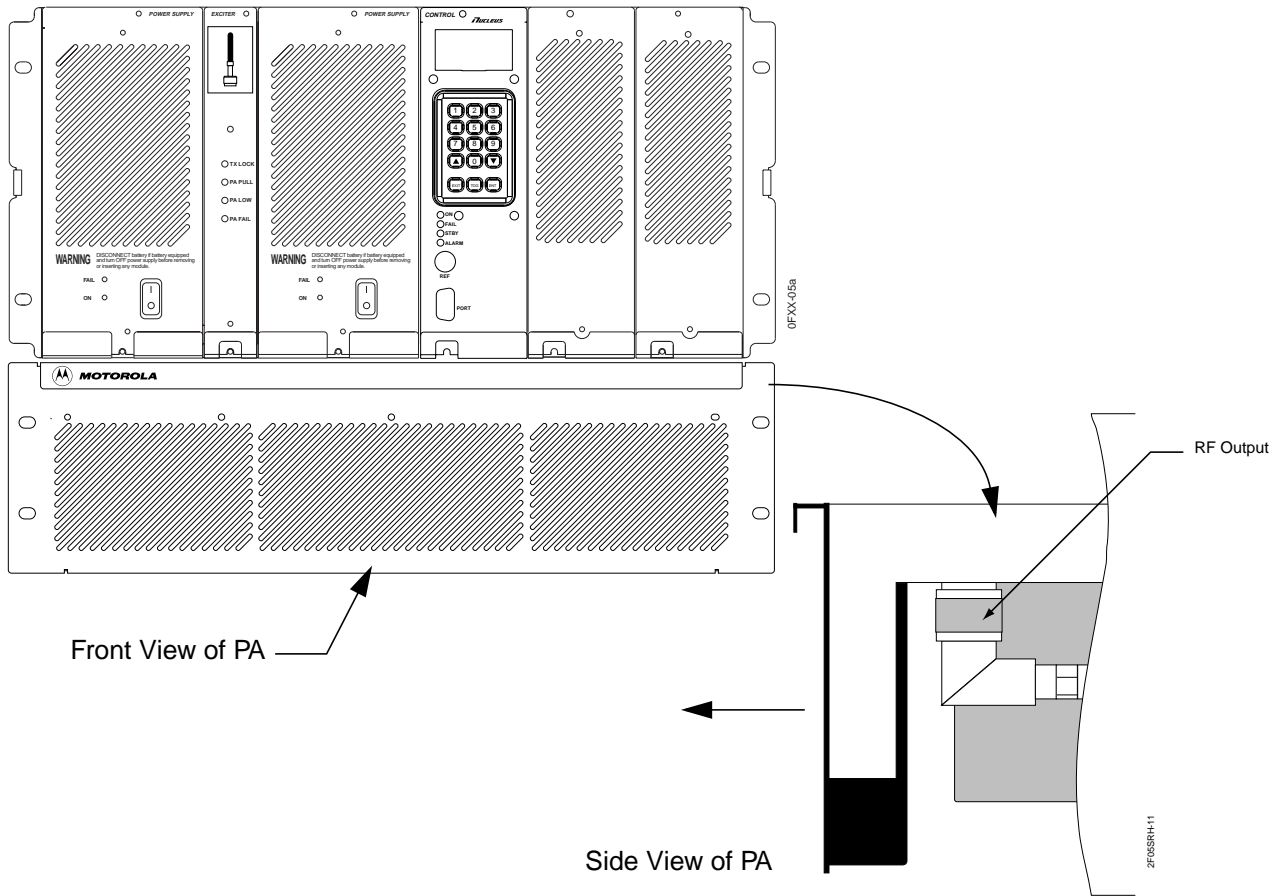

Figure 10-3: Location of RF Output Connector in a High Power Nucleus Paging Station
6. Disconnect the N-type connector (RF output from the Exciter) from the cutout in the lower left corner of the PA (see Figure 10-3).